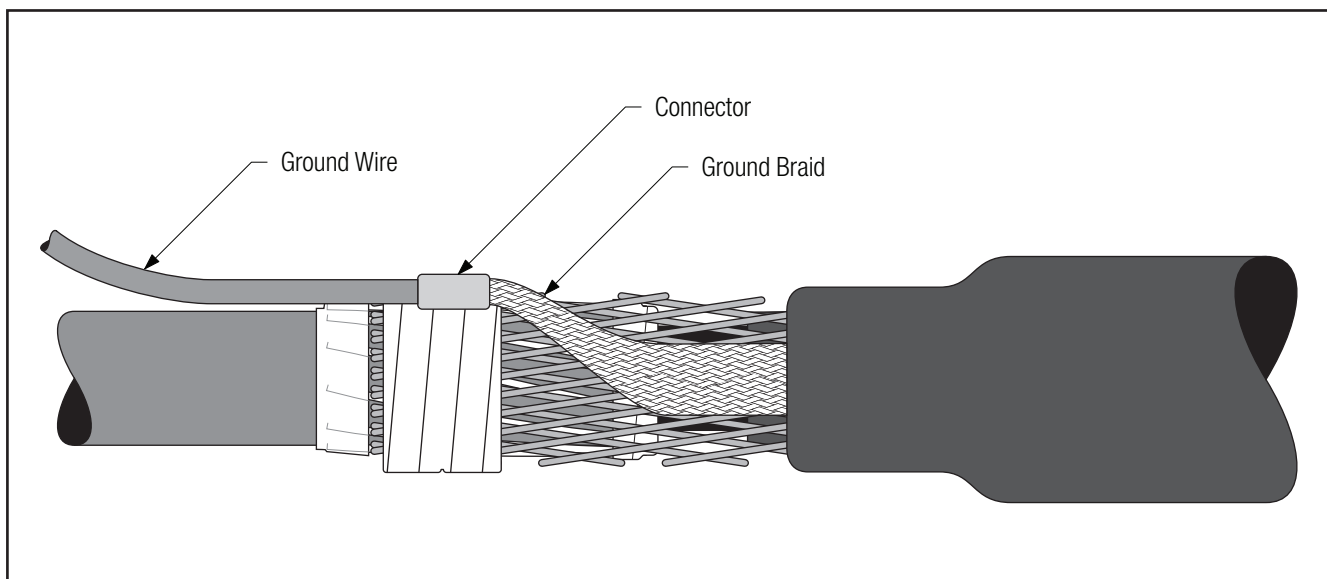

Figure 22
6.1 **If using a ground wire:** Connect a ground wire to the pre-installed ground braid on the integrated splice using an appropriate connector. Keep connector profile as low as possible. For C-tap or H-tap connectors, position flat against the cable. Crimp connector following the connector manufacturer’s recommendations (*Figure 22*).